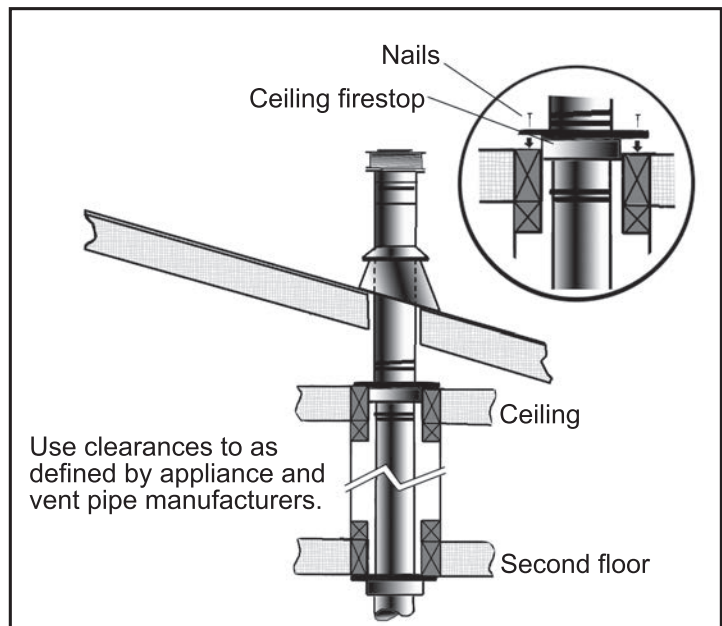

**Figure 51: Use of Wall Straps.**
- (1) If an offset is necessary in the attic to avoid obstructions, it is important to support the vent pipe every **3' (914 mm)**, to avoid excessive stress on the elbows, and possible separation. Wall straps are available for this purpose (see Figure 51).
- (2) When ever possible, use 45° degree elbows instead of 90° degree elbows. The 45° degree elbow offers less restriction to the flow of flue gases and intake air.